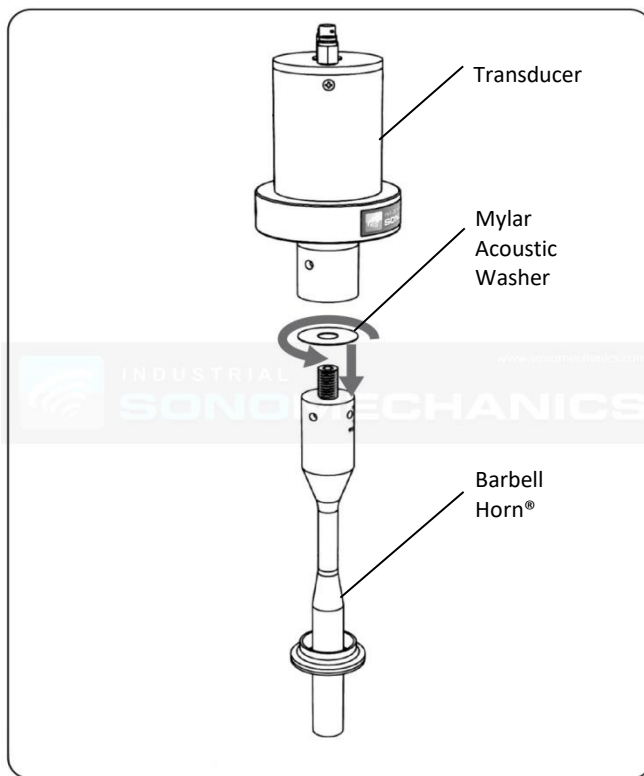

Figure 4 - 1. Attaching a Horn to the Transducer, Step 1.
2. Thread the components together by hand (Step 1, Fig. 4 – 1) and then tighten using the supplied spanner wrenches (Step 2, Fig. 4 – 2).